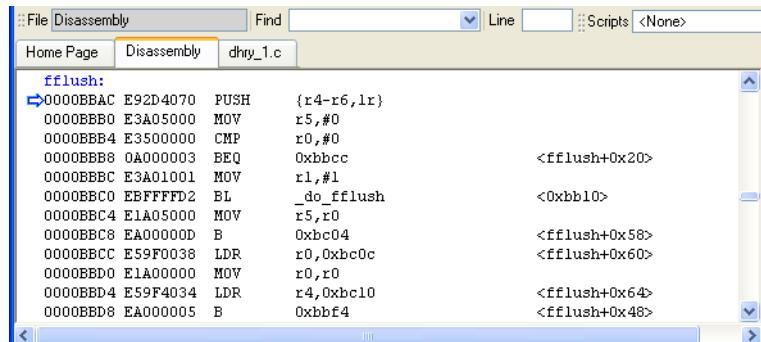

Figure 10-4 Set PC to a function
7. Select **Set PC to Here** from the context menu. The PC changes to the first location of the function (at address 0xBF14 in this example). Figure 10-4 shows an example: